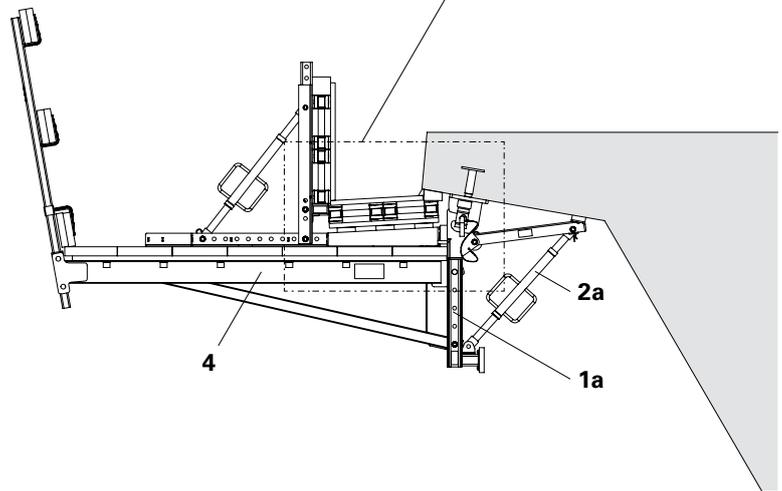

Fig. A4.01a
- The Kicker AV 82 (2a) is always connected to the base of the Bracket Post 70 (1a) by means of bolts and cotter pins. (Fig. A4.01a)
- Mount the Platform Cantilever Beam VGK 170 (4) in the top and bottom holes of the Bracket Post VGK 70 (1a). (Fig. A4.01a)